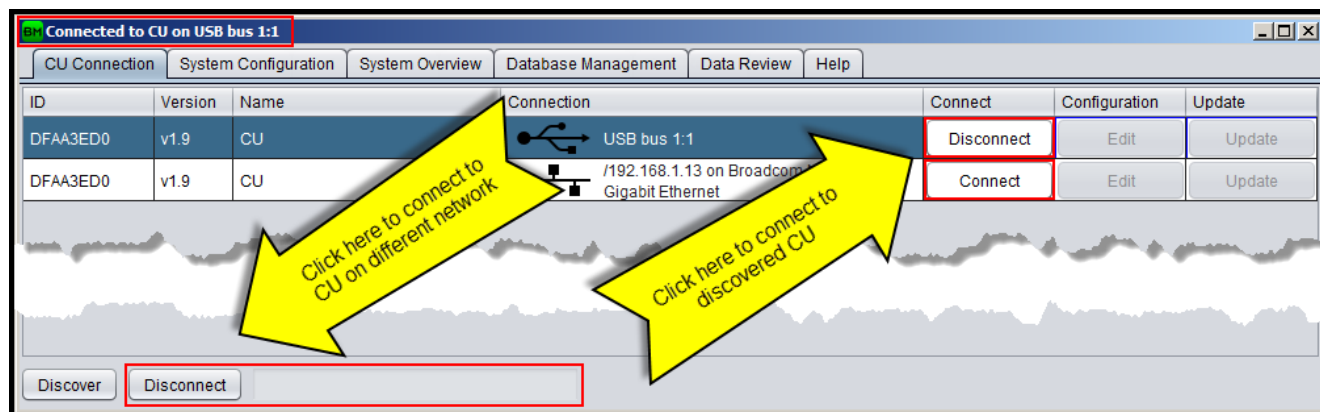

Figure 27: CU connection
- Connect to the CU pressing the **"Connect"** button. Once connected the windows title and icon changes as shown on Figure 27. Ethernet discovery only works if the CU and the PC are on the same LAN. In case the CU is not discoverable because not on the same LAN, the user must write the public address or name on the field on the page bottom and click on the **"Connect to:"** button.